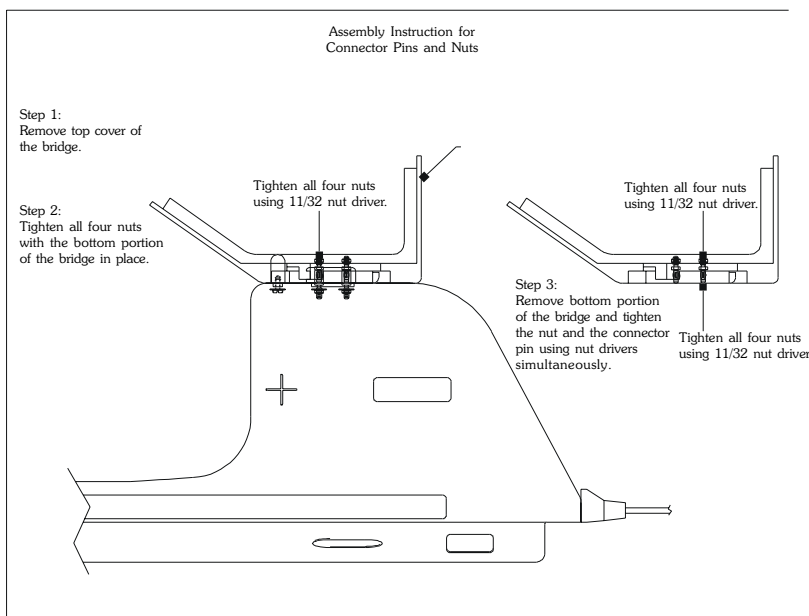

Figure 7: Replacing the anterior bridge assembly.
- The anterior bridge assembly is a field replaceable unit and can be simply interchanged with the original assembly. However, to ensure correct fit and ease of engagement of the anterior assembly to the coil, it is strongly recommended that the service engineer follow the following procedure (see *Figure 7* for guidance).